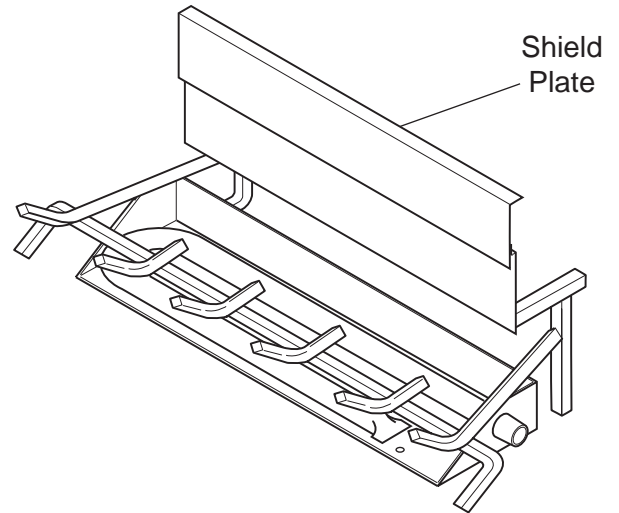

Figure 83 - Sliding Shield Plate Down Back of Burner Pan
1. Slide shield plate down back of burner pan. *See Figure 83.*